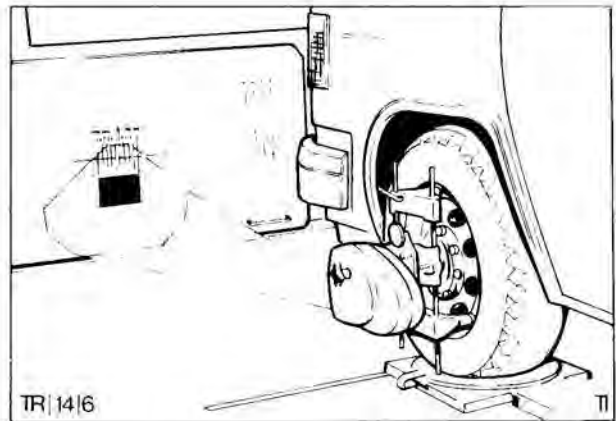

Fig. 6. Projector showing total toe-in.
11. Record toe-in/out from position of projected image on RH screen. This is total toe-in or out, Fig. 6.